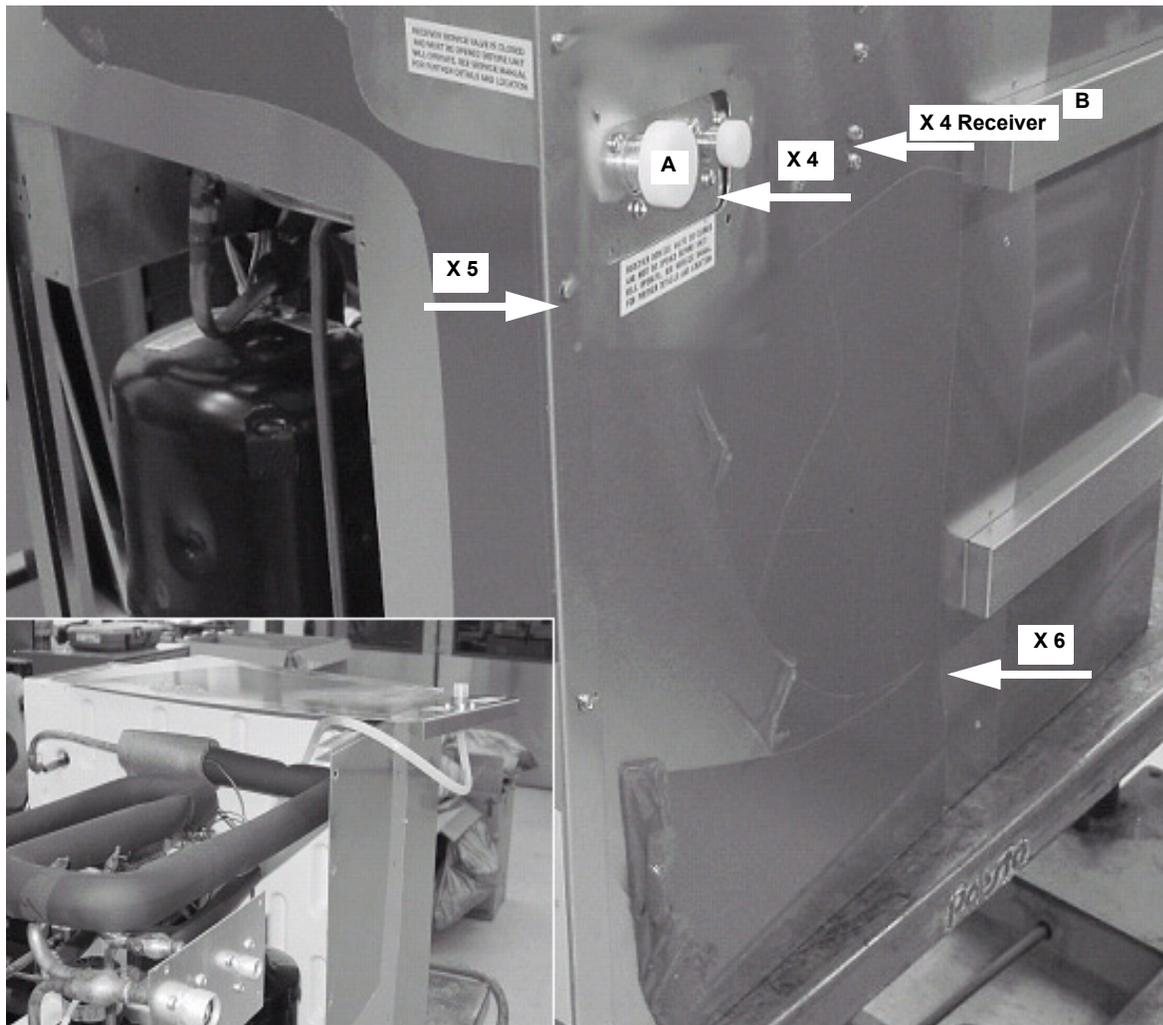

Figure 20.
18. Clip the wire tie securing the internal water line to the suction line assembly. Remove the 6 screws attaching the back panel to the left wrap panel (Figure 20).